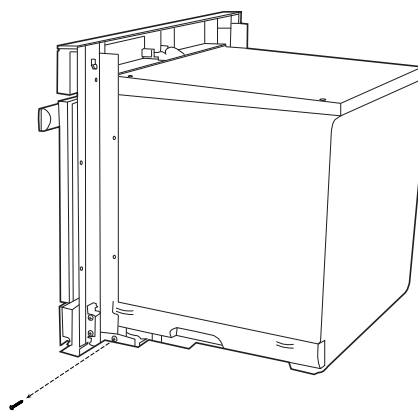

FIGURE 2B
- SuperSteam+ Oven** - Place the oven on a secure surface. Remove the 2 bottom screws (1 on each side of the oven) as showing in Figure 2B. Install the two conversion brackets with the two provided screws (J). See Figure 2C. Carefully place the oven on top of the pedestal in-between the conversion brackets on the left and right.